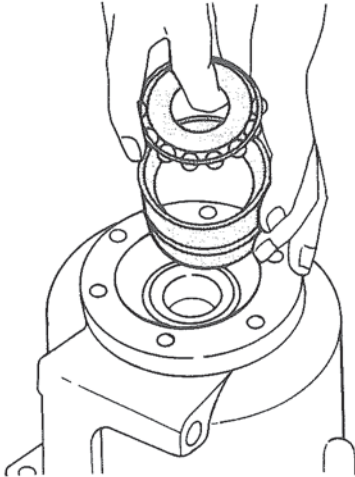

Figure 22. Installing Bearing.
1. Place the reduction housing on an arbor press resting the front face on a clean flat surface. The position of the bearing parts are shown in Figure 22.